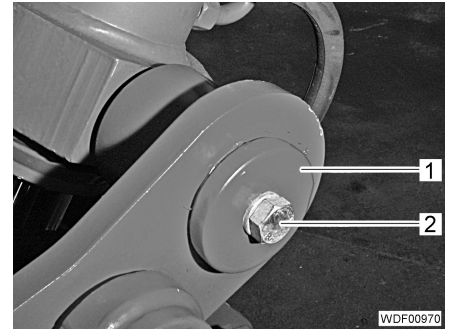

Fig. 209 Securing the tipping cylinder
- Unscrew the screw (Fig. 209,2).
- Remove the washer (Fig. 209,1).